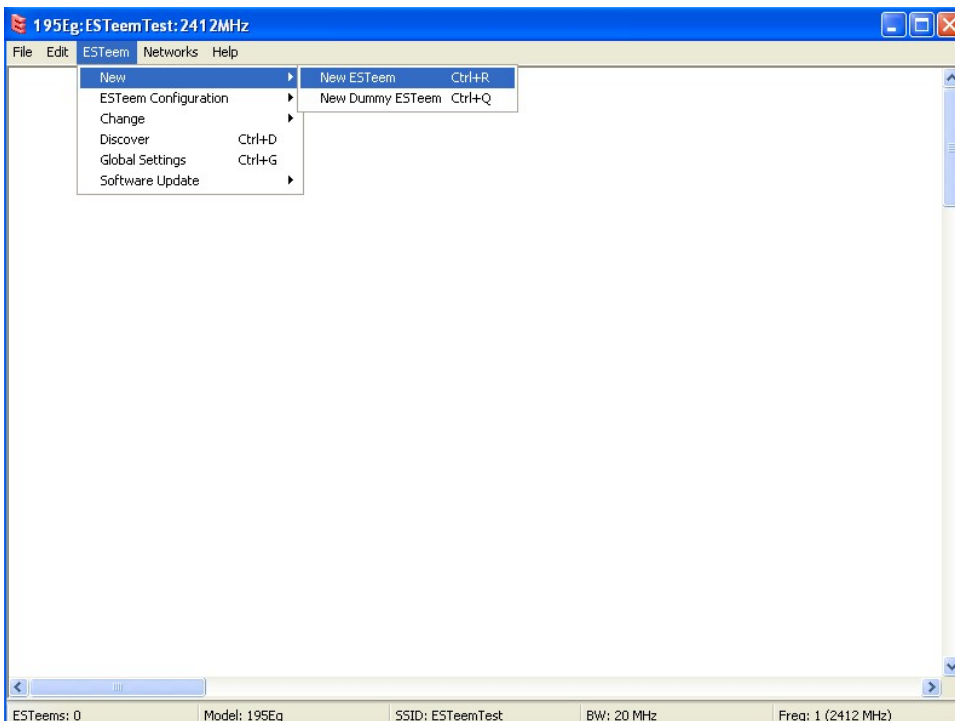

Figure 6: Adding ESTeem to Blank ENC Configuration Page
1. Consult the ENC Utility's User Guide on how the create a new wireless network. Once you have a blank network configuration page (Figure 6), select , select ESTeem from the menu items to display the drop down menu, then select New>New ESTeem.